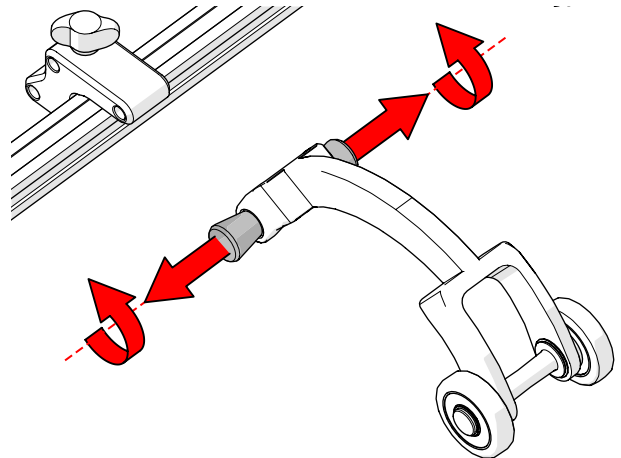

Fig. 52 - Pull pins and twist
1. Pull the pins and twist a quarter turn latching the pins in a retracted state (Fig. 52).